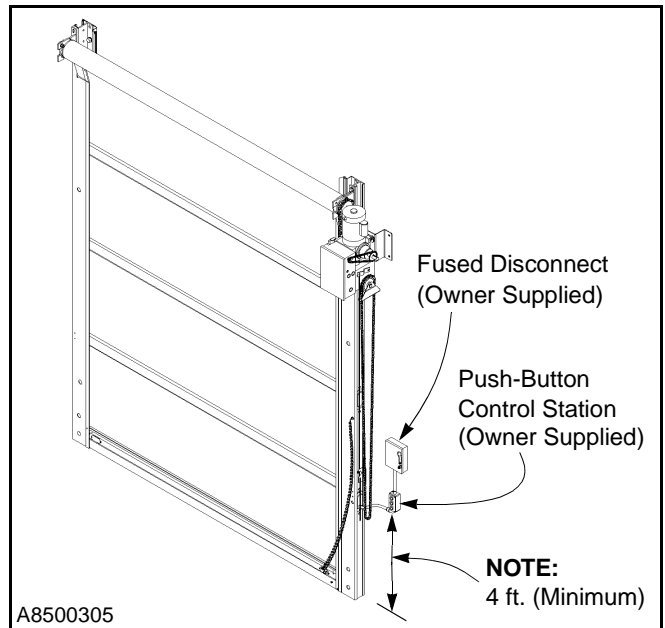

Figure 27
1. Locate the push-button control station and fused disconnect as shown in Figure 27.